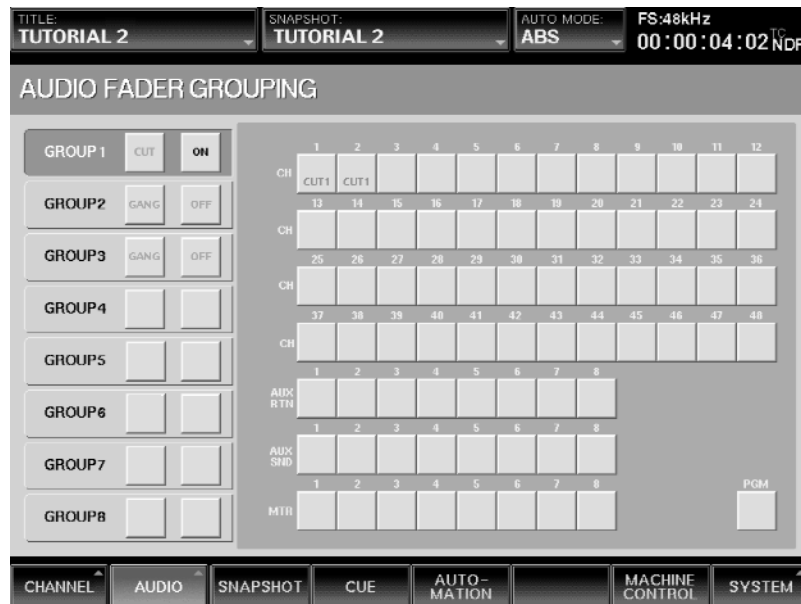

Figure 8
- 4 We'll begin by placing channels 1 and 2 into a cut control group. Accordingly, press the Mode button for GROUP1 repeatedly until it reads CUT. Then press the ON/OFF button for GROUP1 so that it reads ON. The right side of the screen contains buttons for all 48 input channels, all 8 Aux returns and sends, the 8 multitrack (MTR) buses, and the stereo Program (PGM) bus.\* Touch the buttons for Channels 1 and 2: the words "CUT1" appear in each, indicating that both of these channels have now been placed in Group 1, which has been designated as a cut control group. (See Figure 8)